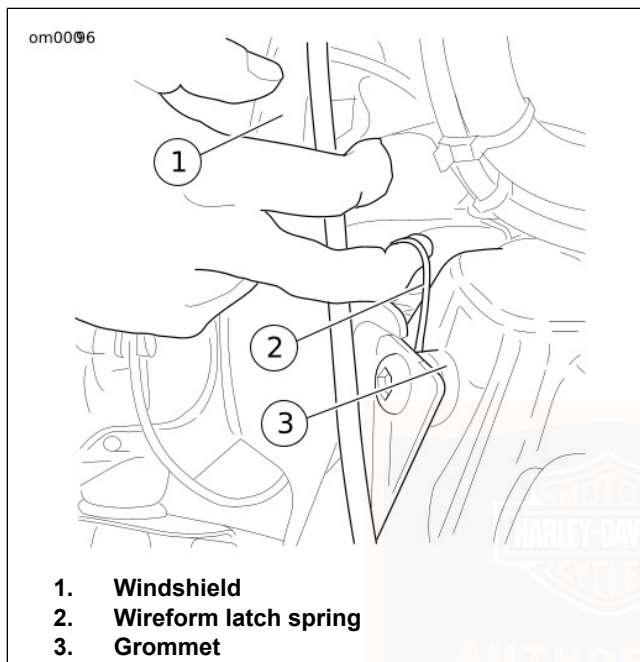

Figure 35. Windshield Assembly
1. See Figure 35. Insert your fingers into the wireform latch springs at either side of the windshield and move the TOP of the windshield assembly forward, until the TOP bracket notches slide away from the grommets.
1. See Figure 35. Insert your fingers into the wireform latch springs at either side of the windshield and slide the BOTTOM windshield bracket notches onto the bottom grommets.